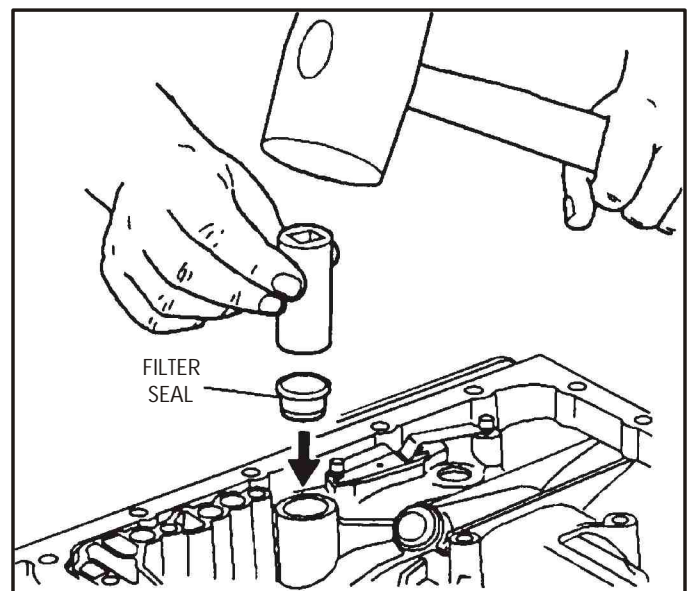

Figure 198
7. Install a new oil filter seal into transaxle case, using a socket and plastic mallet, as shown in Figure 198.